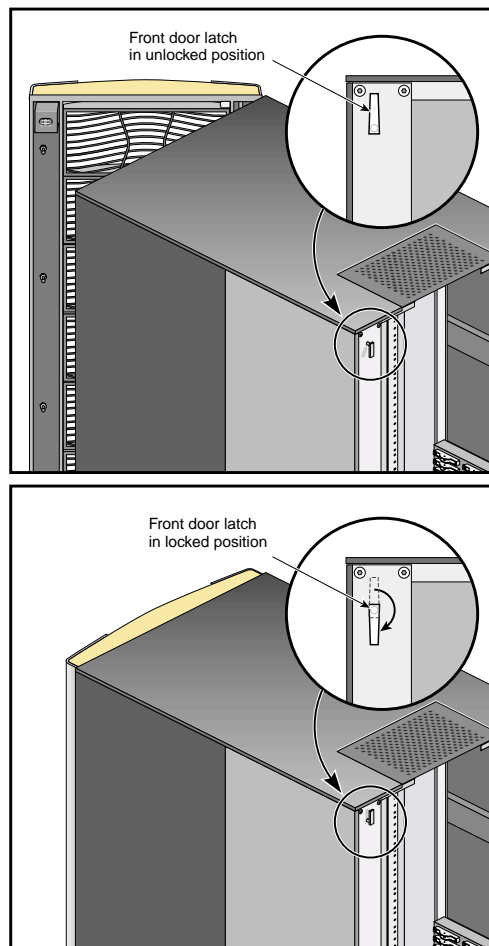

Figure 4-3 Locking the Front Door
2. In the rear of the rack, press in the door lock actuator and rotate the lever to point downward (see Figure 4-3).